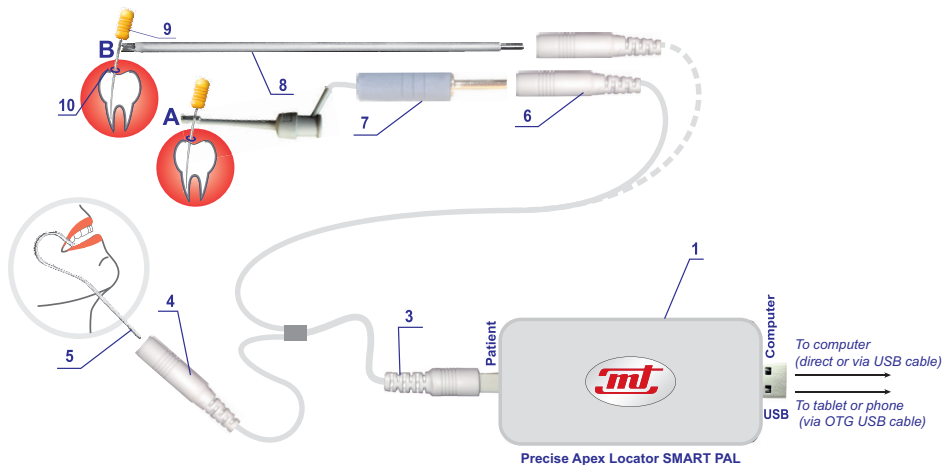

Fig. 17
6. Plug the cable (3) into the socket labelled *Patient*. Insert the lip contact (5) into the socket (4) all the way to the end. Attach the lip contact (5) in order to maintain good contact with the oral mucosa (Fig.17). The crown of the tooth **must be dry**. It is recommended that the canal should be wet for better contact.
- Attach the endodontic clip probe (7) to the endodontic file (9) by pressing the spring next to the plastic head with your thumb (Fig. 17, **A** version). Move the rubber marker (10) down the file.
- The extension probe (8) may be used instead of the endodontic clip probe (7) when working with molars especially. Obtain the read-out showing the current position of the endodontic file in the canal by touching the “Y” end of the extension probe (8) to the endodontic file (9). This speeds up the treatment process by eliminating the need to keep the endodontic clip probe (7) in the mouth of the patient for the duration of the procedure (Fig. 17, **B** version).